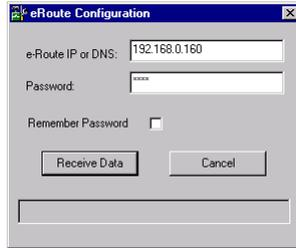

Figure 25. e-Route Configuration Receive Log On Window
1. Open the **File** menu and select **Receive from e-Route** to display the log on window shown in Figure 25.